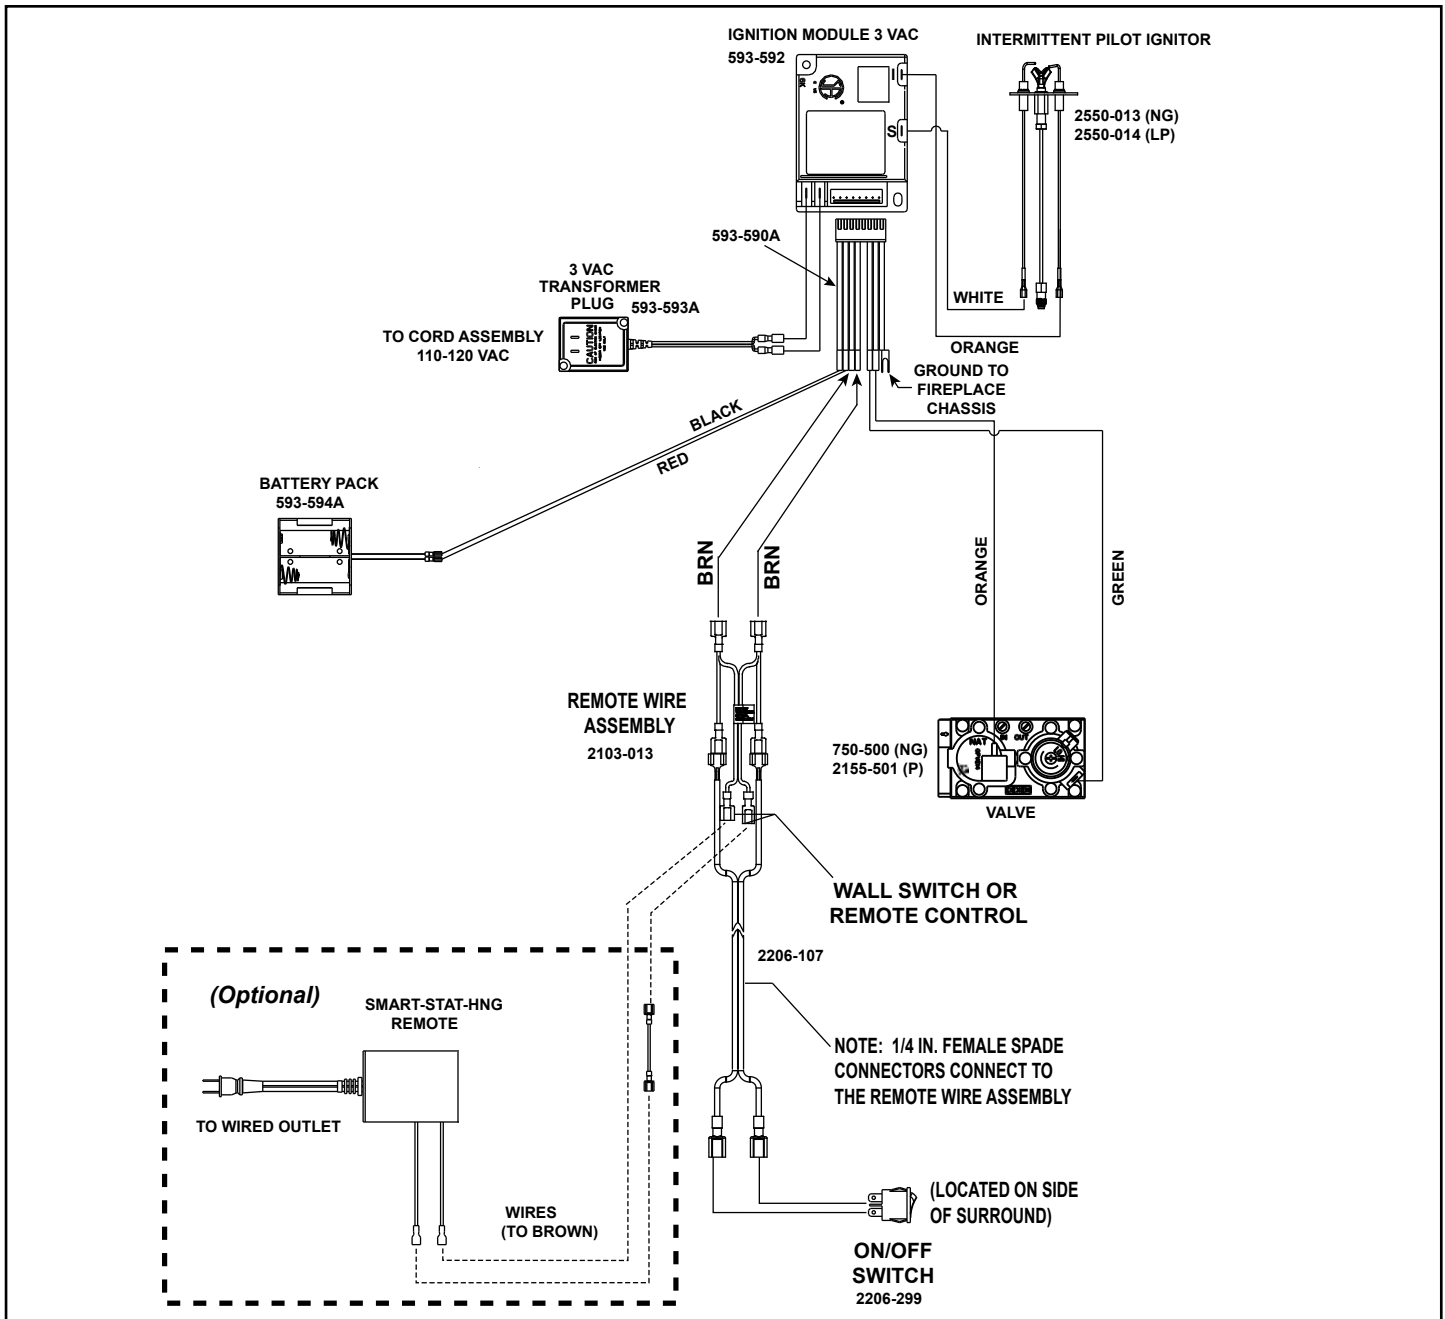

Figure 6.2 IntelliFire Pilot Ignition (IPI) Wiring Diagram
- Refer to Figure 6.2, IntelliFire Pilot Ignition (IPI) Wiring Diagram.